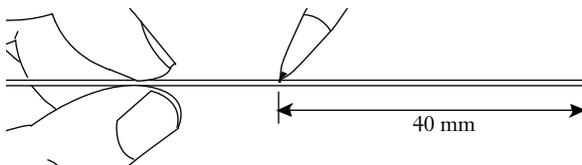

Figure 4-16
**4.5-2** Measure and mark 40 mm from the end of the cable's outer jacket (Figure 4-16).